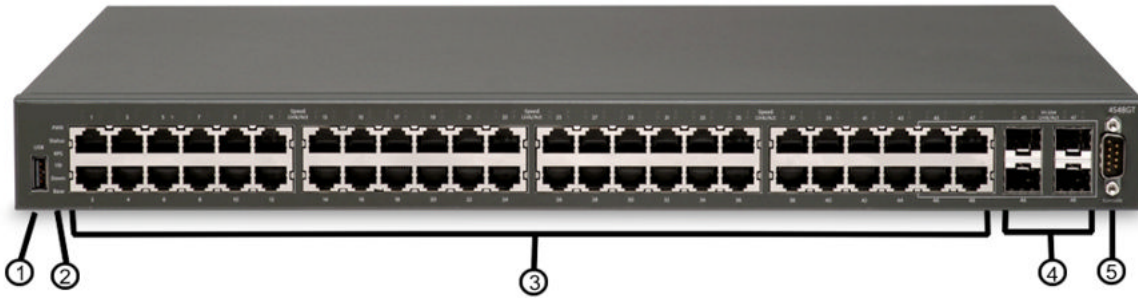

Figure 4: Avaya Ethernet Routing Switch 4548GT
- Figure 4: Avaya Ethernet Routing Switch 4548GT on page 38